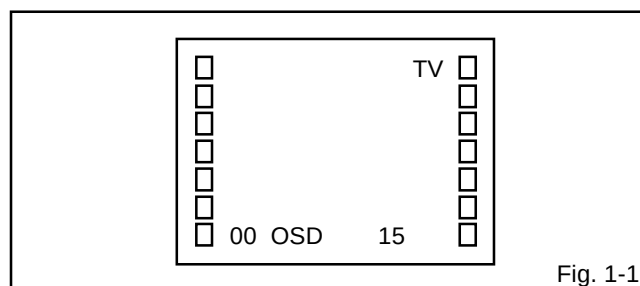

Fig. 1-1
2. Press the VOL. DOWN button on the set and the Channel button **(9)** on the remote control simultaneously to appear the adjustment mode on the screen as shown in **Fig. 1-1**.
4. Activate the adjustment mode display of **Fig. 1-1** and press the channel button **(03)** on the remote control to select "VIF VCO".
3. Activate the adjustment mode display of **Fig. 1-1** and press the channel button **(02)** on the remote control to select "RF DELAY".
5. Activate the adjustment mode display of **Fig. 1-1** and press the channel button **(01)** on the remote control to select "CUT OFF".
4. Activate the adjustment mode display of **Fig. 1-1** and press the channel button **(10)** on the remote control to select "R CUT OFF".
3. Activate the adjustment mode display of **Fig. 1-1** and press the channel button **(05)** on the remote control to select "H PHASE".
3. Activate the adjustment mode display of **Fig. 1-1** and press the channel button **(07)** on the remote control to select "V SHIFT".
3. Activate the adjustment mode display of **Fig. 1-1** and press the channel button **(06)** on the remote control to select "V SIZE".
3. Activate the adjustment mode display of **Fig. 1-1** and press the channel button **(13)** on the remote control to select "BRIGHTNESS".